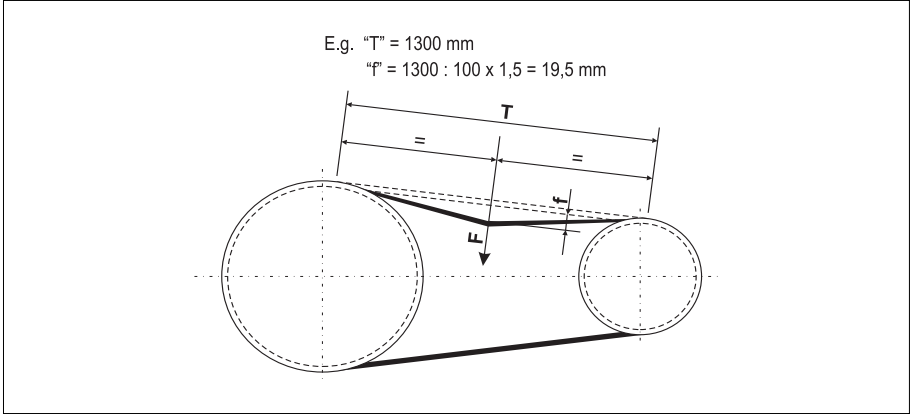

FIG. 26 (Belt tensioning)
5.6.4- Assembling the belts (FIG. 26 and TAB. 14)
Insert the belts in the suitable pulleys and check the belt tensioning as follows (**FIG. 26**):